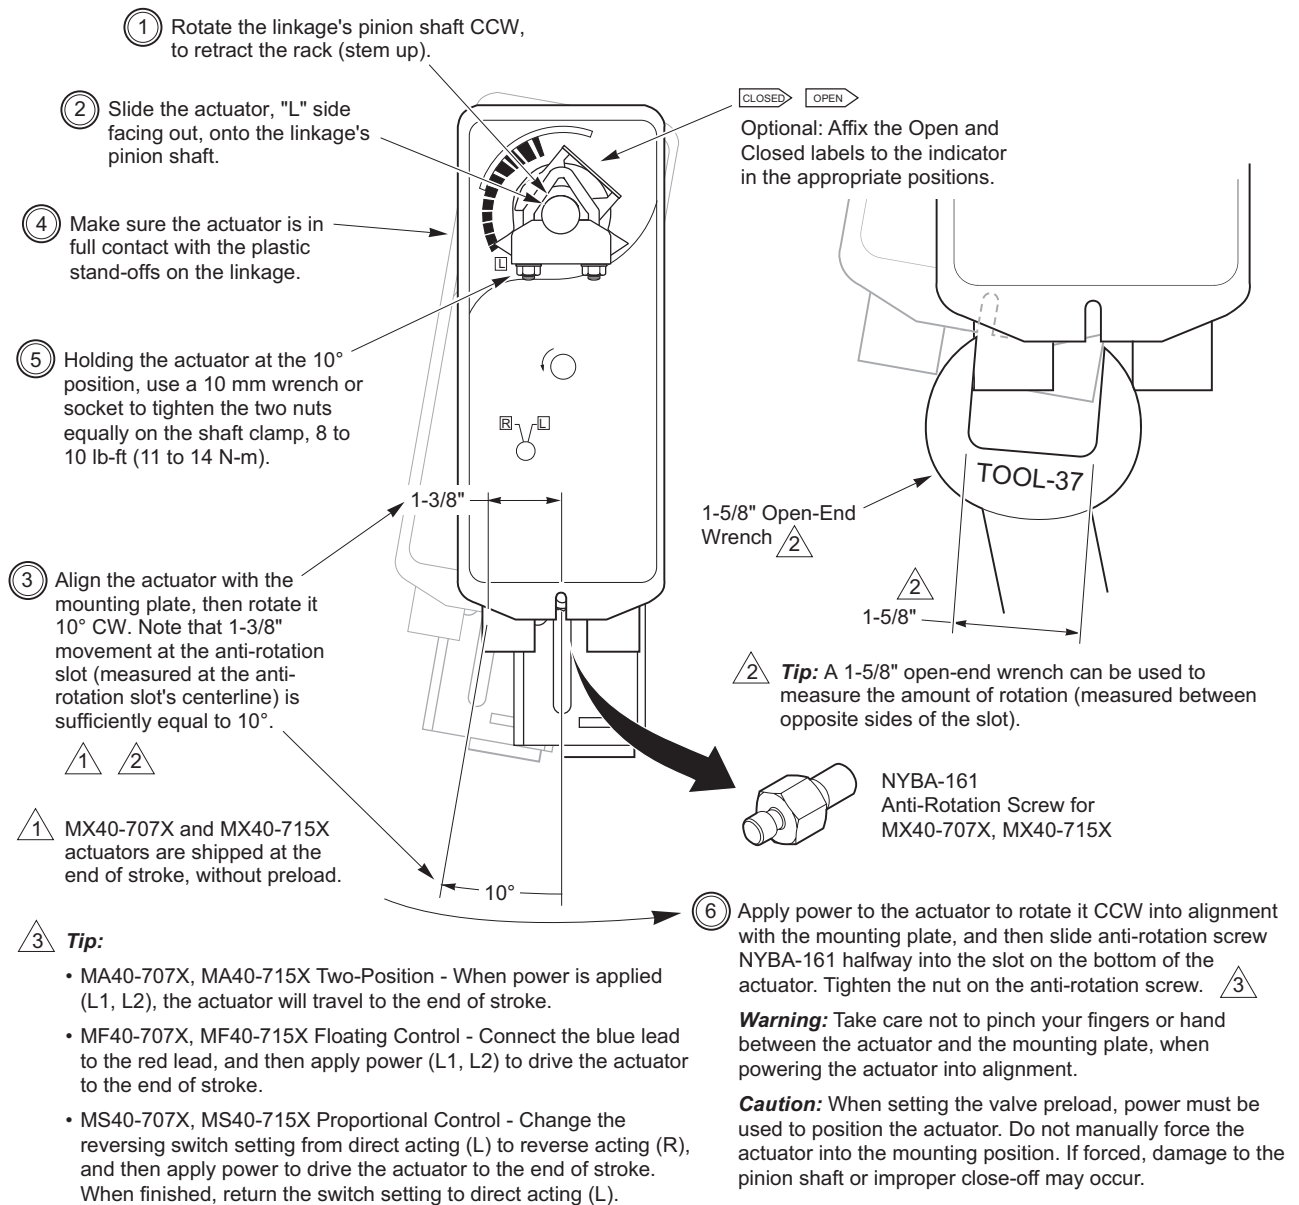

Figure-4 Mounting MX40-707X or MX40-715X and Setting Up Actuator/Linkage/Valve Assembly.
- a. Install the actuator onto the linkage and 3-way valve, and set up the assembly, according to Figure-4.